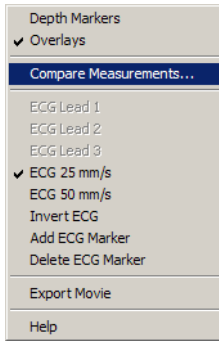

Fig. 82 Compare Measurements menu option
- 2 When the Context menu is displayed, select the Compare Measurements option from the popup, as shown in Figure 82.
- 2 When the Context menu is displayed, select Compare Measurements from the popup, as shown in Figure 82.